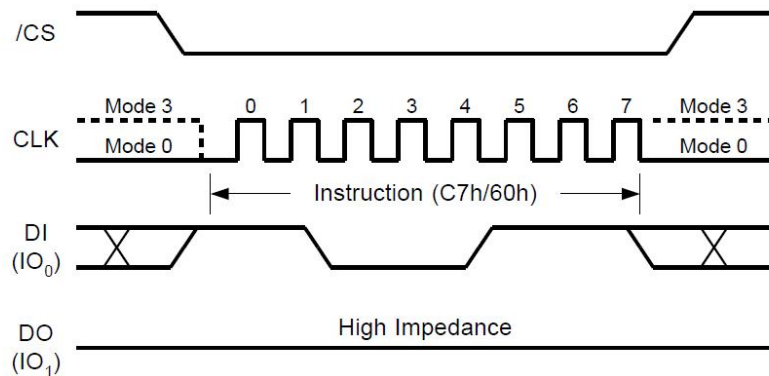

Figure13. Chip Erase Sequence Diagram
The Chip Erase command sequence: CS# goes low → sending Chip Erase command → CS# goes high. The command sequence is shown in Figure13. CS# must be driven high after the eighth bit of the command code has been latched in; otherwise the Chip Erase command is not executed. As soon as CS# is driven high, the self-timed Chip Erase cycle (whose duration is T_{ce}) is initiated. While the Chip Erase cycle is in progress, the Status Register may be read to check the value of the Write in Progress (BUSY) bit. The Write in Progress (BUSY) bit is 1 during the self-timed Chip Erase cycle, and is 0 when it is completed. At some unspecified time before the cycle is completed, the Write Enable Latch (WEL) bit is reset. The Chip Erase (CE) command is executed, if the Block Protect (BP2, BP1, and BP0) bits are 0.